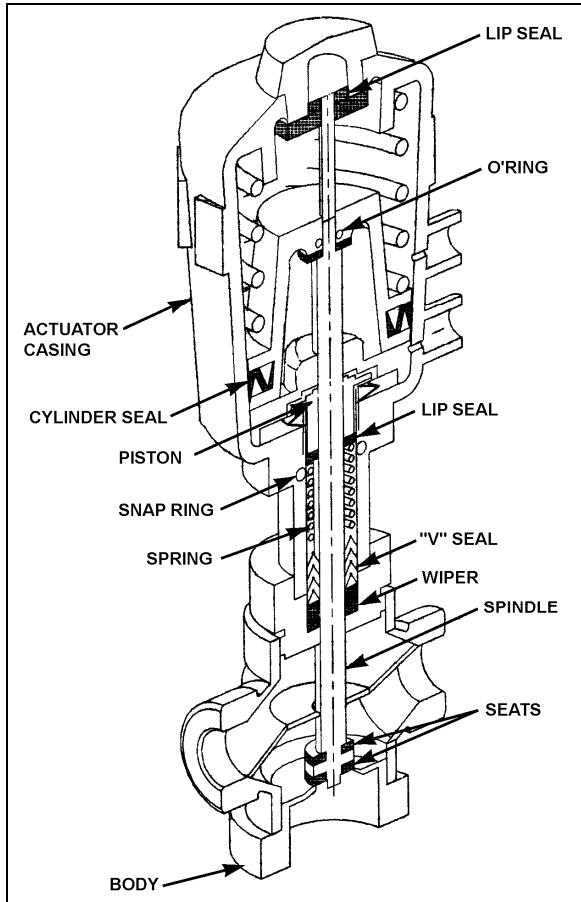

FIGURE 48: PNEUMATIC WATER VALVE 22330
2. Tighten the nipple in place in the body cavity as per figure 48. Fasten pilot solenoid valve to the pneumatic water valve. Reconnect air supply pressure and electrical current to the pilot solenoid valve.